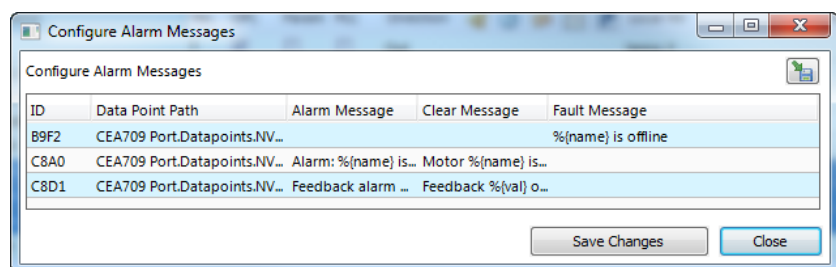

Figure 186: Spreadsheet for multi-edit of alarm messages.
- **Configure Alarm Messages:** Use this option from the context menu for editing alarm messages (alarm, clear, fault) for all data points in the selection. A dialog with a spreadsheet view appears as shown in Figure 186. Edit the messages directly in the spreadsheet. Alternatively, click on the export button  to export the spreadsheet as a CSV file for editing in Excel. Import a CSV file with alarm messages in the menu **Tools → Import alarm messages**.